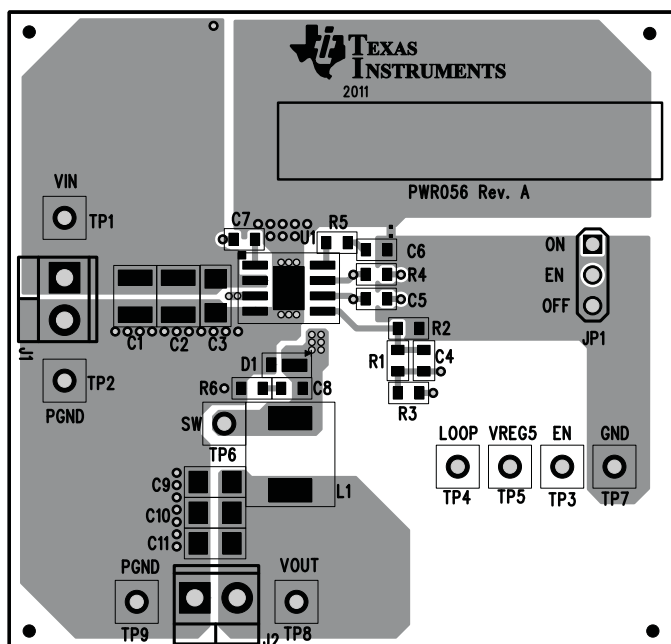

Figure 15. Top Assembly
The board layout for the TPS54229EEVM-056 is shown in Figure 15 through Figure 19. The top layer contains the main power traces for VIN, VO, and ground. Also on the top layer are connections for the pins of the TPS54229E and a large area filled with ground. Many of the signal traces also are located on the top side. The input decoupling capacitors are located as close to the IC as possible. The input and output connectors, test points, and all of the components are located on the top side. An analog ground (GND) area is provided on the top side. Analog ground (GND) and power ground (PGND) are connected at a single point on the top layer near C6. The two internal layers are completely dedicated to power ground planes. The bottom layer is primarily power ground. A copper pour area on the bottom layer is used to connect the switching node (SW) to the output inductor and the boost capacitor. Traces also connect enable control jumper, EN, VREG5, and LOOP test points, and the feedback trace from VOUT to the voltage setpoint divider network.